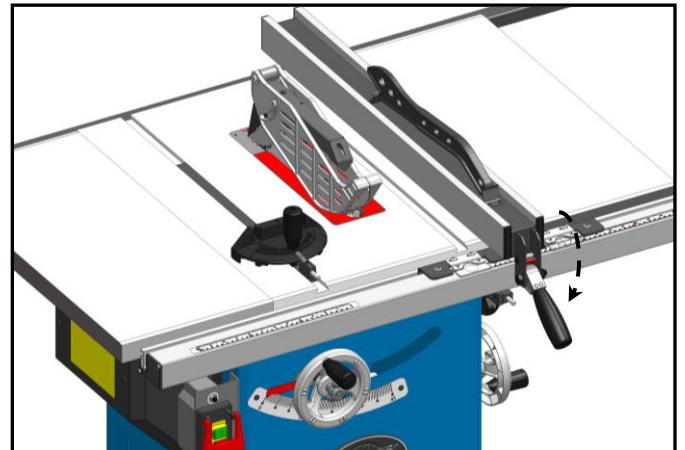

Fig. 11
1. Slide the fence over to the right T-slot on your saw table top lock down the fence handle and make a visual check that the fence is parallel with the T-slot all along its length. Also, you can place a small 3/4" thick block of wood, upright into the T-slot and slide it from the front to the back checking its distance from the left edge of the fence Fig. 11.